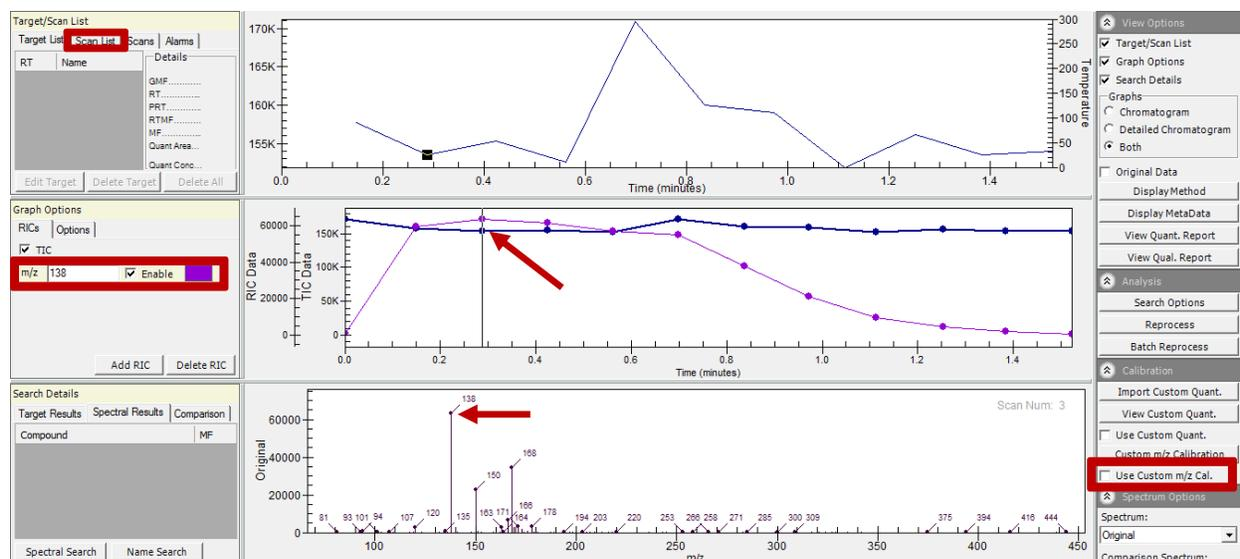

Figure 4.15 – Data file from frequency macro experiment
7. After the Frequency macro has finished, the data can be accessed by following the file path specified in Step 5. Opening the data file displays the chromatogram and resulting mass spectra generated during each change of frequency settings. Under “RICs”, enter the m/z of the highest intensity fragment from typical MS/MS spectra for this compound, and check the “Use Custom m/z Cal” box. The intensity of the fragment should now be able to be monitored over the entire chromatogram as specified by a differing color (Figure 4.15).
8. Determine the point in the chromatogram that results in the highest fragment intensity for the peak specified in step 7. The frequency at this point can be determined by clicking the “Scan List” tab and finding the specific scan number that correlates to the point of interest in the chromatogram in the list. Hovering the cursor over the corresponding “scan number” will result in the frequency being shown in a pop-up window (Figure 4.15). Record this frequency value.